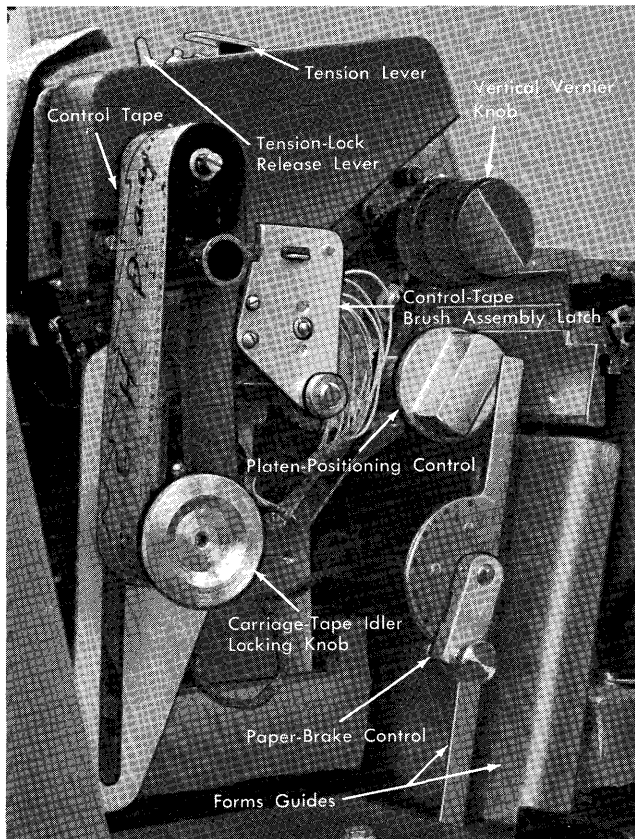

Figure 7. IBM 1443 Printer Left-Hand Controls
Another method of inserting the form is to bring the end of the form out to the left-hand side of the printer. From this position, the form can be slid into the form guides (Figure 7). This requires moving the form from left of the print station to the right until it is in line with the tractors for locking into place for feeding.
Line spacing is changed from 6 to 8 lines to the inch by shifting the belt on the left side of the carriage. When changing from 6 to 8 lines to the inch, the belt tension must be released by pushing the belt-tension lock lever (Figure 7) toward the rear of the carriage. This lever is located on the left side of the carriage and extends through the cover over the belt drive for the forms tractor. This is the belt that must be changed to alter the spacing.
3. Raise the brushes by lifting the latch on the side of the brush holder (Figure 7).
6. Remove the excess slack from the tape by loosening the locking knob (Figure 7) on the idler and moving the idler in its track. Tighten the knob when the desired tension is reached. The tape should be just